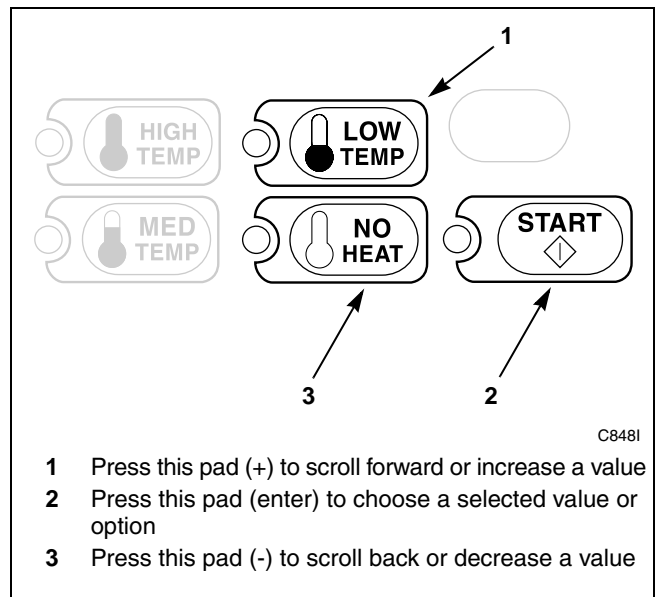

Figure 194
5. Press the LOW TEMP (+) or the NO HEAT (-) keypad to increase or decrease the current number to the desired number selected from *Table 5*. Refer to *Figure 194*.